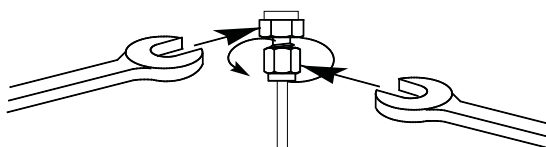

Figure 27. Final tightening
- 8 For 1/8-inch Swagelok fittings, use a pair of 7/16-inch wrenches to tighten the fitting 3/4 of a turn. See **Figure 27**.
For 1/4-inch fittings, use a pair of 9/16-inch wrenches to tighten them 1-1/4 turn, as shown in **Figure 27**.